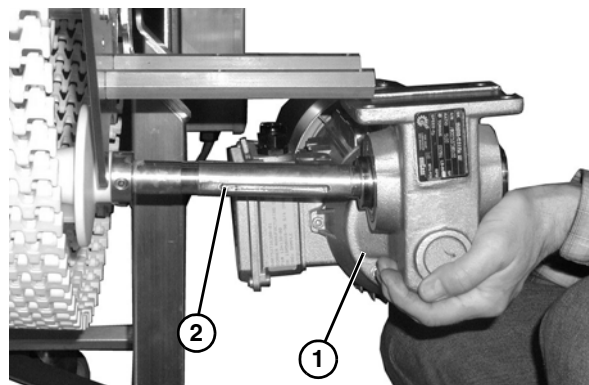

Figure 68
3. Slide the gearmotor assembly (Figure 68, item 1) off of the drive spindle (Figure 68, item 2)